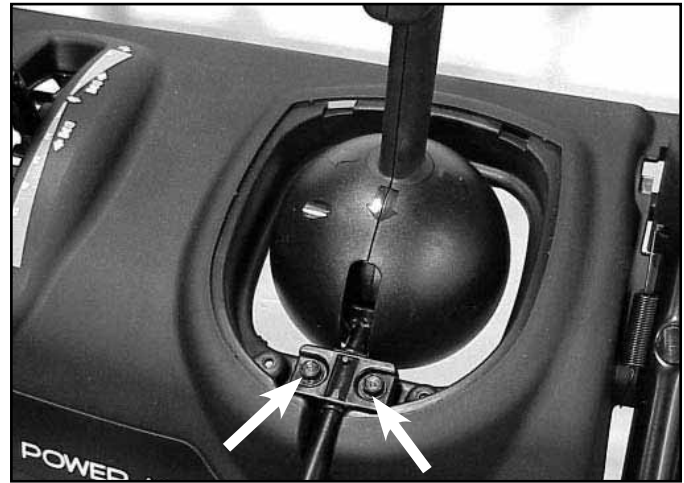

Fig 017
4. Remove the two screws that retain the rod support to the control panel (Fig. 017).